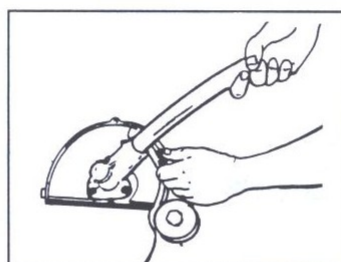

Fig. 8
4. To adjust the blade cutting depth, loosen the adjustment knob above the wheel. Slide the bracket into the desired position and retighten the knob (Fig. 8).